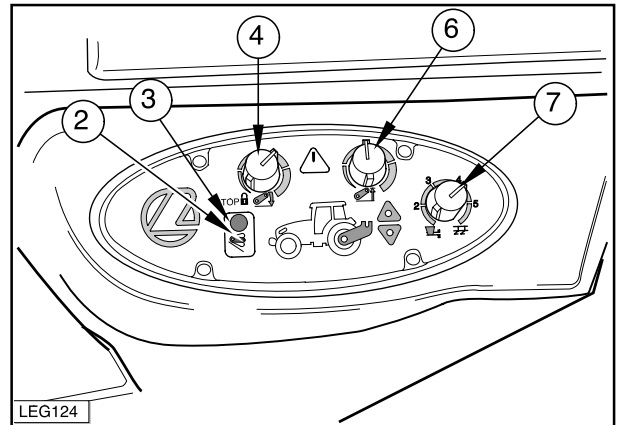
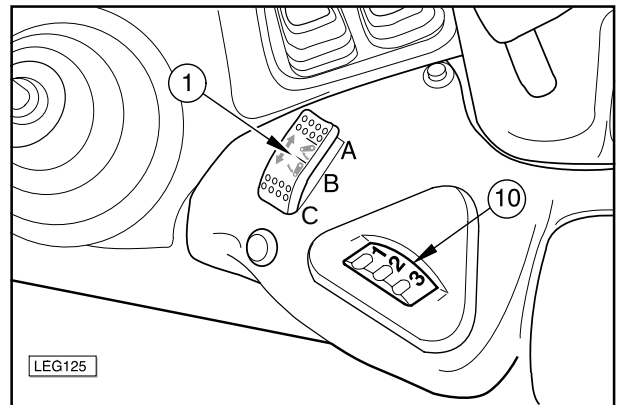

Fig. 4-77
Fig. 4-78
Transporting implements (Fig. 4-77)
Shock absorber function in the transport position (Fig. 4-78)
- Use the selector (4 - Fig. 4-77) to set a suitable descent speed for the type of implement being used.
- Set the switch (1) to working position (C).
- Turn the control knob (10 - Fig. 4-78) to obtain the correct working depth/height.